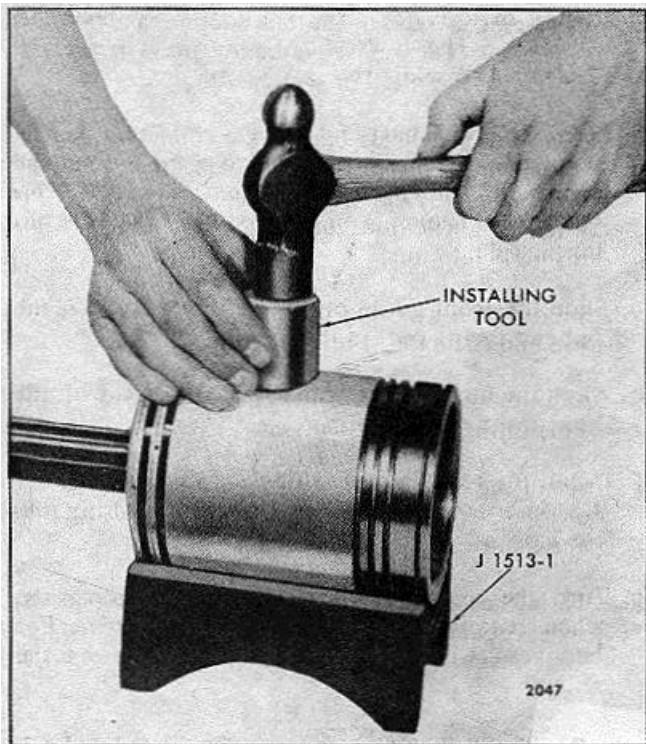

FIG. 12 Installing Piston Pin Retainer
1. Place the piston in the holding fixture (Fig. 12).